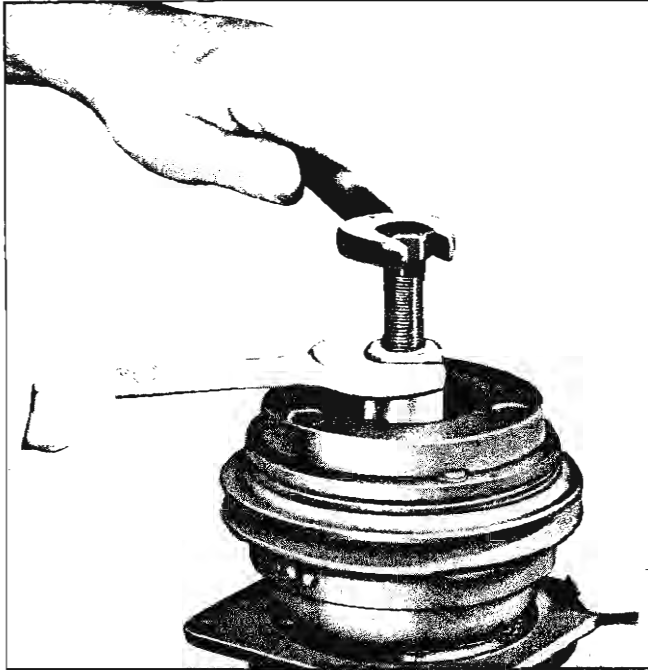

Fig. 27—Installing Hub and Drive Plate Assembly
3. Using Tool J-9480 and washer J-9480-2 (fig. 27), install the hub and drive plate assembly. Pull the assembly onto the shaft until there is approximately $\frac{3}{32}$ " space between the frictional surfaces of the drive plate and pulley. (A ZERO thrust race is approximately $\frac{3}{32}$ " in thickness and may be used to roughly gauge this operation.)